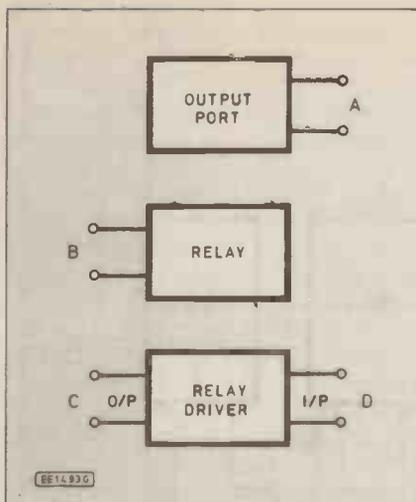

Fig. 9.8. See question 23.
23. (5.1.3) Fig. 9.8 shows the blocks required to interface a relay to a microprocessor-based system. Which one of the following gives the connections required?